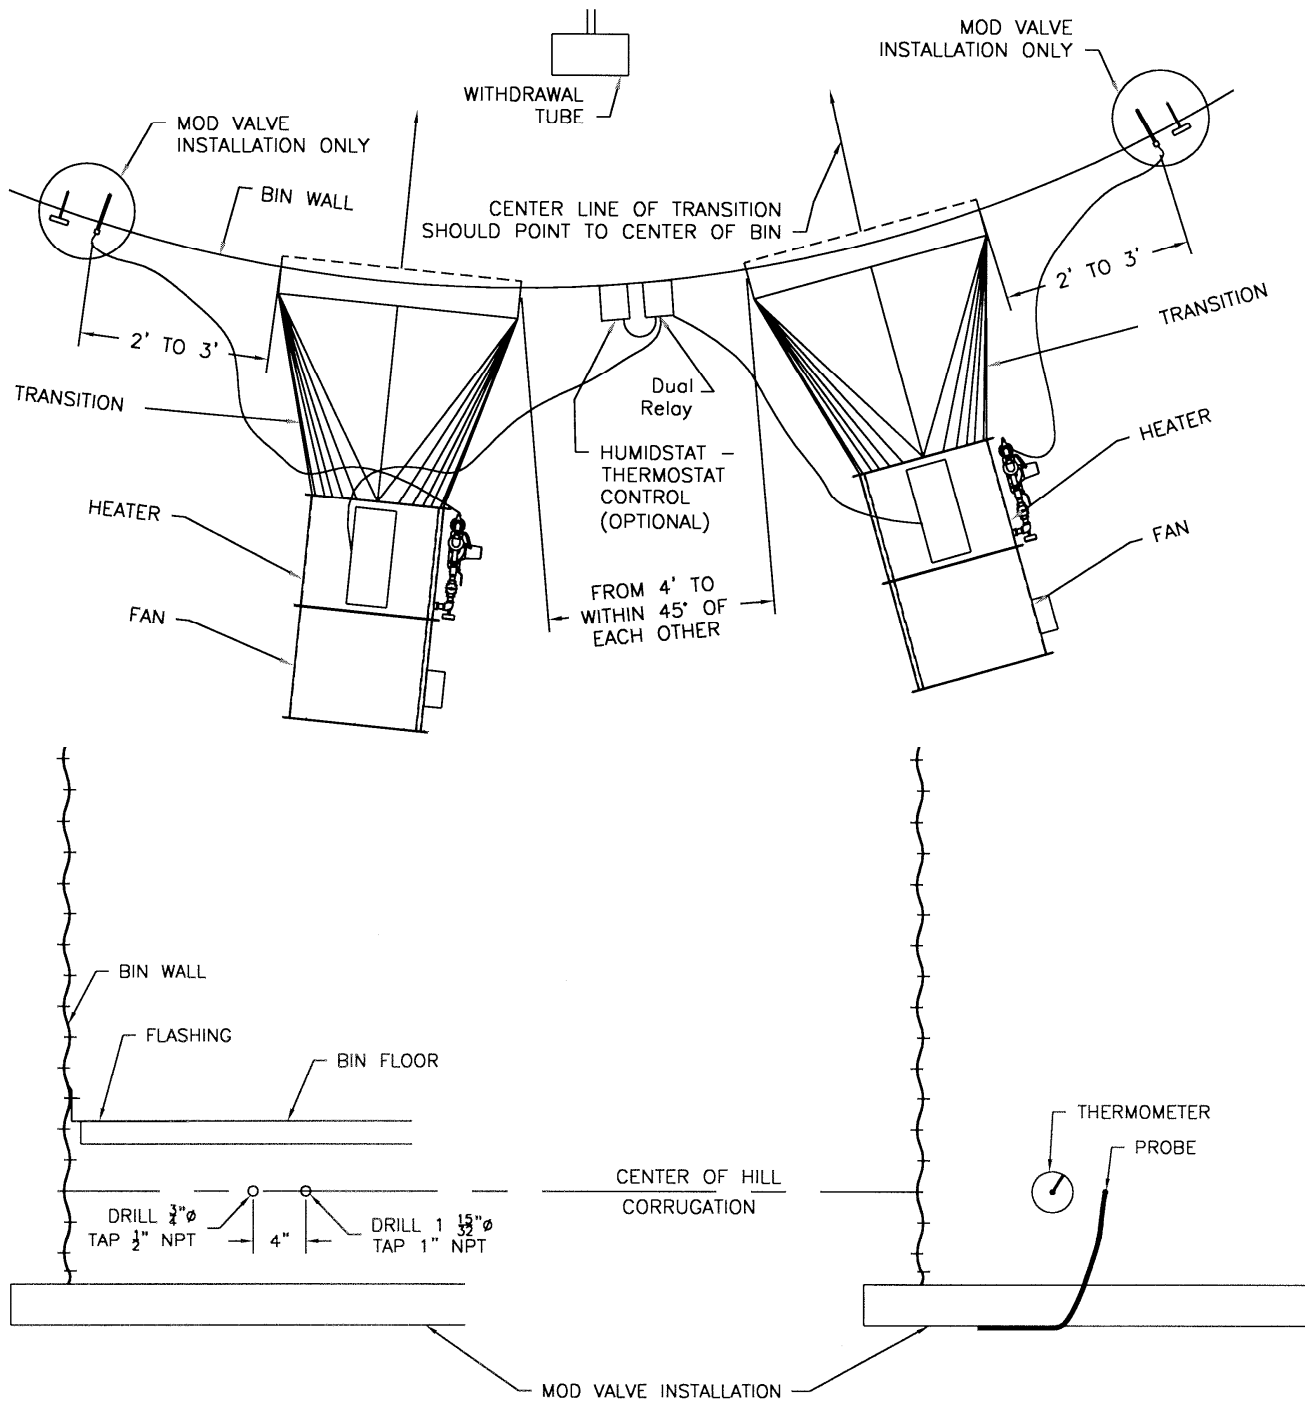

Figure 5. Typical Installation of Two Drying Units and Optional Plenum Controls
B. If two drying units are used on the same bin (**Figure 5**), locate them from 4' to within 45° of each other and centered opposite the withdrawal tube. Locate any humidistat or thermostat control between the two heater units, making sure control senses heat from both units (order kit #9735035.)